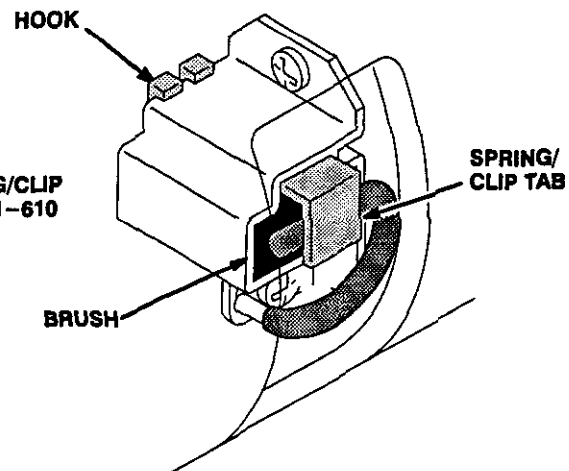

Fig 18
7. Holding the spring/clip at a slight angle, slide the spring/clip into the brush holder and hook it over the end of the holder. See Fig 18. Pull on the spring/clip to be sure it stays in place. Be sure the brush lead is tucked under the spring/clip tab.